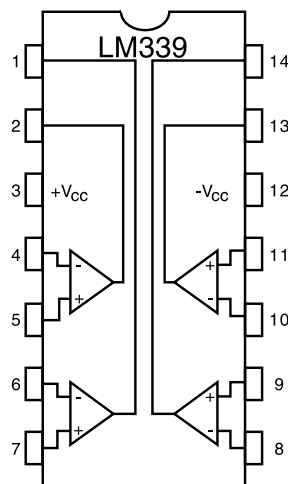
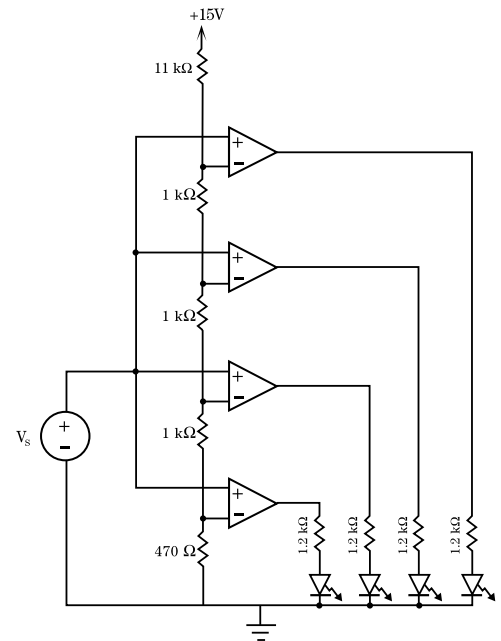

Figure 3
Figure 4
Your supervisor has decided to use seven LEDs in the display. An octal 0 is indicated when all of the LEDs are off. Each increment in the octal number will light an additional LED. Her technique for decoding the analog signal is to use an A/D (analog to digital) converter called a flash converter. Her design uses two LM339s, (quad comparators), with the pin-out shown in Fig. 3. The circuit she gave you for the display requires that the output of your D/A be positive. If your D/A outputs negative voltages, you will need to modify her design. She wants you to verify her design by constructing the first half of her circuit as shown in Fig. 4. Conduct a system test by connecting your design to her prototype to ensure the entire system is in compliance with the design specs.
- b. When “forward biased”, that is, when an LED is on, LEDs usually have a voltage drop of 1.7 V. Most are operated at about 10 mA. As shown in Fig. 4, your supervisor specified 1.2 kΩ “current limit” resistors in each LED branch of her circuit. Did she select the correct resistors?